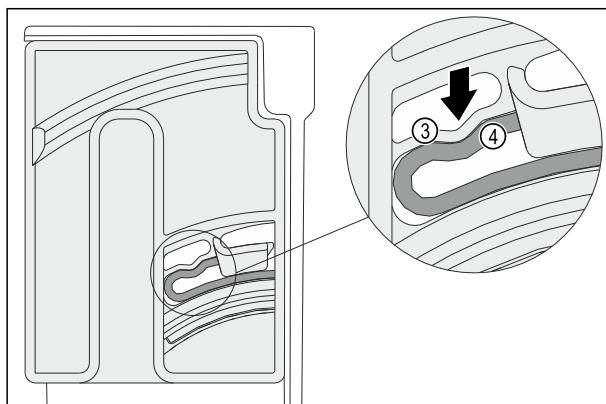

Fig. 154
- The elastic element Fig. 154 (3) of the swivel unit clicks audibly in the round mold of the ridge Fig. 154 (4).